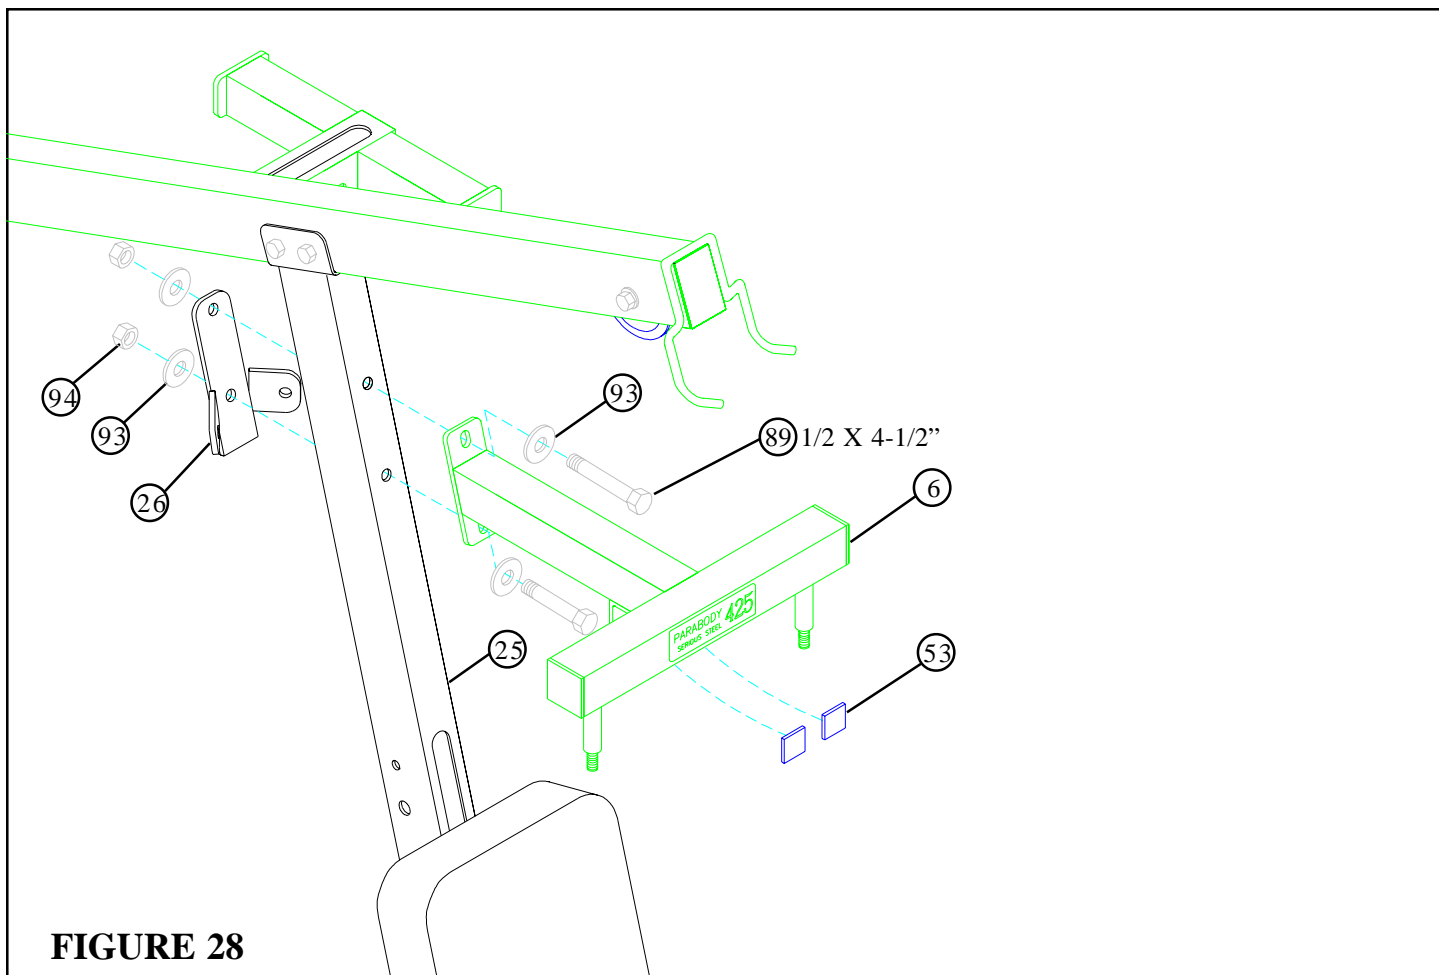

FIGURE 28
- **SECURELY** assemble the BEARING HOUSING (6) and the CENTER PULLEY BRACKET (26) to the FRONT UPRIGHT (25) using two 1/2 X 4-1/2" BOLTS (89) , four 1/2" WASHERS (93), and two 1/2" LOCK NUTS (94). See FIGURE 28.
- Attach two 1 X 1" GUIDES (53) to the ANGLE on the **UNDERSIDE** of the BEARING HOUSING (6). See FIGURE 28.